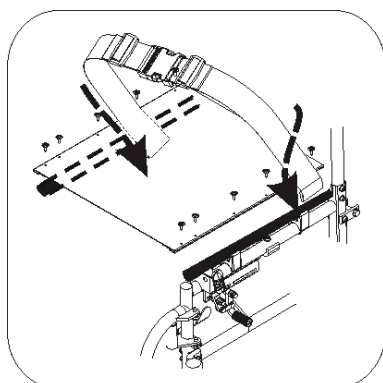

Figure 4.31
1. Loosen the fourth and fifth screws of both side of seat upholstery and insert the pelvic belt in between the fourth and fifth screw holes. (See Figure 4.31.)